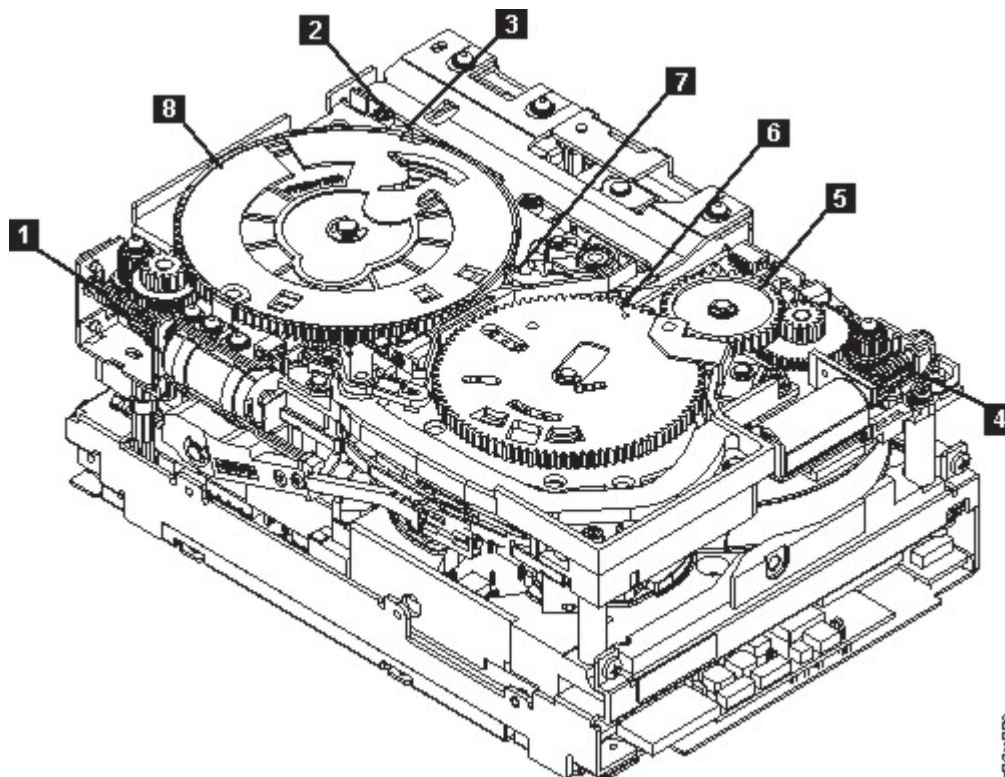
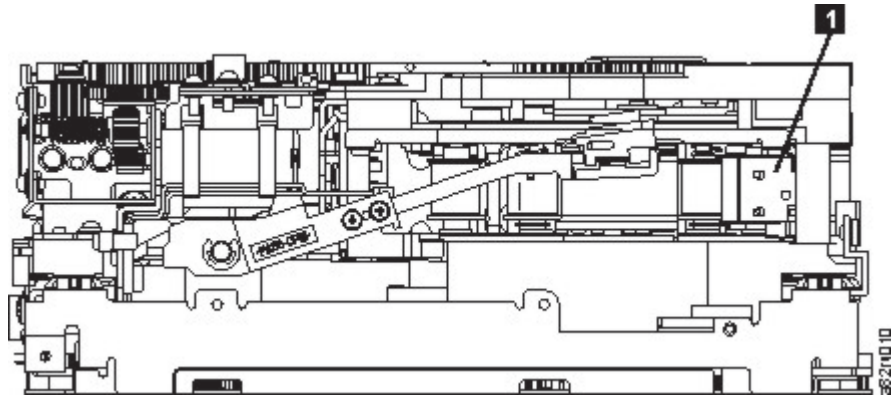

Figure 118. Drive with cover removed to reveal gear train.
Figure 119. Leader Block Assembly (LBA)
5. Locate the threader motor worm gear (4 in Figure 118 on page 194) on the rear of the drive. Use your finger to rotate the threader motor worm gear and slowly rotate the threader mechanism gear (6 in Figure 118 on page 194) clockwise.
- This action rotates the threader motor worm gear (4 in Figure 118 on page 194) clockwise, drawing the LBA into the cartridge.
6. As the tape leader block assembly (LBA) is secured in the cartridge, you hear the LBA retention spring clips click into place. If you do not hear the click, continue rolling until the threader motor worm gear (**4** in Figure 118 on page 194) stops. The LBA is in the correct position.
- a) Loader mechanism gear (**6** in Figure 118 on page 194) nearest the front of the drive that actuates the cartridge loader mechanism.
- b) Position of the rotate stub (**3** in Figure 118 on page 194).
- c) Front loader motor worm gear (**1** in Figure 118 on page 194). Rotating this gear allows the loader mechanism gear (**8** in Figure 118 on page 194) to turn.
8. Rotate the loader motor worm gear (**1** in Figure 118 on page 194) to turn the loader mechanism gear (**6** in Figure 118 on page 194) counterclockwise. Continue turning until the rotator stub (**3** in Figure 118 on page 194) loses contact with the lever (**7** in Figure 118 on page 194). This action releases the LBA leader pin.
9. Rotate the threader motor worm gear (**4** in Figure 118 on page 194) to turn the threader mechanism gear (**6** in Figure 118 on page 194) counterclockwise. This action moves the LBA out of the cartridge and past the read/write head. Stop this rotation when the LBA is near the tape guide roller nearest the rear of the drive that is shown as **1** Figure 119 on page 195.
10. Continue rotating the loader motor worm gear (1 in Figure 118 on page 194) until the rotator stub (3 in Figure 118 on page 194) is positioned as shown. Notice that the rotator stub (3 in Figure 118 on page 194) is nearly aligned with the cartridge loader tray guide bearing (2 in Figure 118 on page 194).